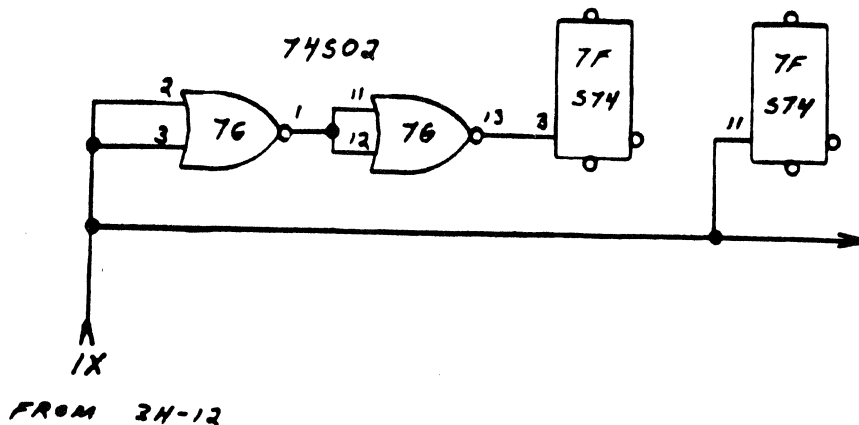

FIGURE 2
- ✓2. Cut the trace shown in Figure 2.